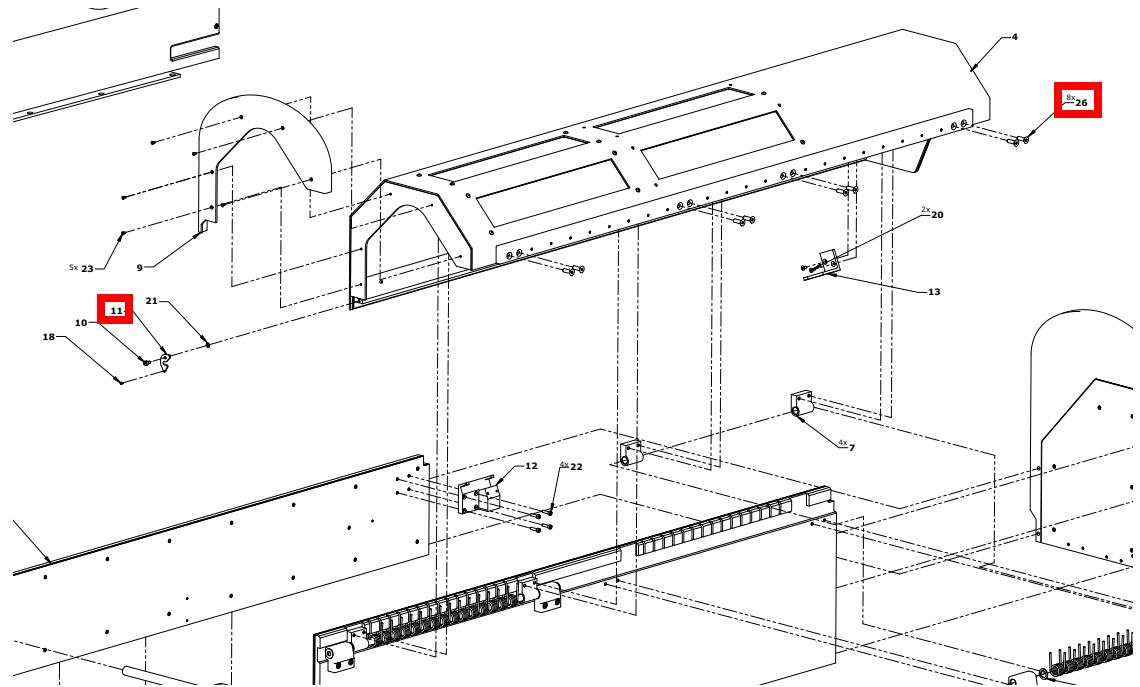

Figure 5-16
In order to remove and replace certain FRUs on the Table Shielding assembly, it will be necessary to remove the Shielding Lid Assembly. See Figure 5-16.
1. Remove an M4 cap screw (2109872-2, Item 17) and flat washer (2390635-16, Item 15) from one end of the Hinge Shaft. Unthread two M6 countersunk head screws (2109884, Item 26 in Figure 5-16) from the Shielding Lid Assembly. Set screws aside.